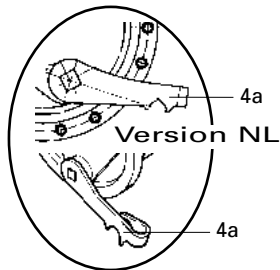

Fig. 3
- Insert wheel, guiding the top end of the brake anchor plate (10) into the brazed-on eye bolt or pipe clamp (8) on the fork, and fit the hub axle into the fork drop-outs as far as the limit position.
- Fit washers (not illustrated) to axle ends and tighten axle nuts (1) to a torque of 30 - 40 Nm.
- Attach control cable with fork unit (5) to brake lever (4).
- For NL drum brake hub version (with lever 4a), only use original Holland brake cable (fork unit (5) is not suitable) (Fig. 3).